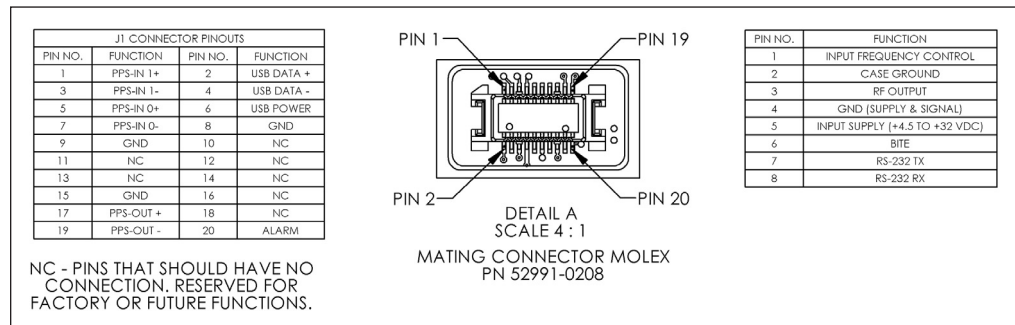

FIGURE 1-3: Pinout.
The MAC is not equipped with a power switch. DC power is applied on pin 5 with ground pins located on pins 2 and 4. If the J1 connector is used, pins J1-8, J1-9, and J1-15 should be grounded. Remaining pins should remain as “No Connect” (NC) unless indicated otherwise in Figure 1-3. If J1 connector is unused, all pins should remain as “No Connect”.